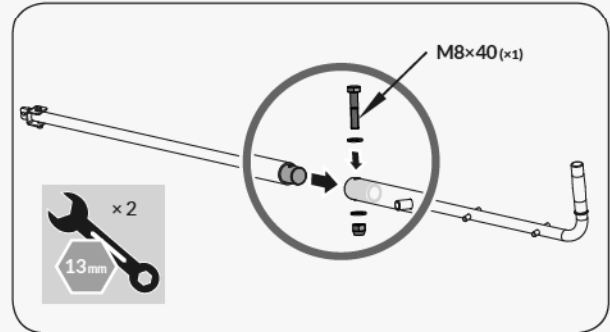

Figure 3c
3. Insert the shorter control lever into the longer lever. Align holes and fasten with M8×40 hex bolt, washers and nut. (See **Figure 3c**)